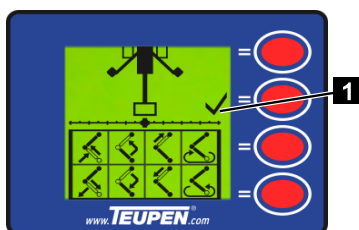

Fig. 144
5. Continue pivoting the platform towards the transport position until the movement stops automatically and the display screen shows the tick (Fig.144/1).